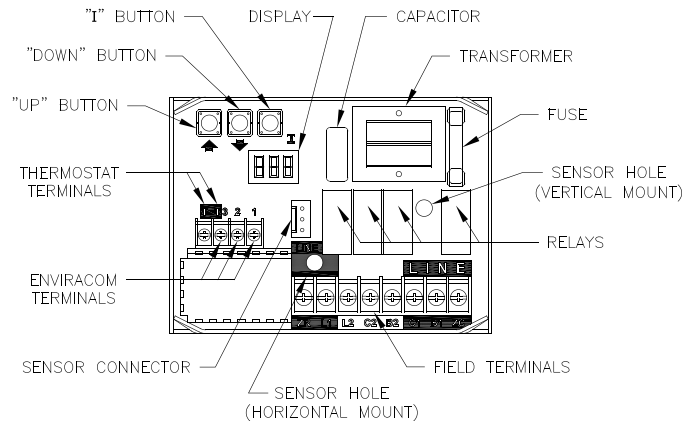

Figure 11-1: Intelligent Oil Boiler Control
- The boiler's sequence of operation is shown as Status Codes on Cold Start Boiler Control display. See Table 11-2 and Figure 11-1.
- If the thermostat is not satisfied and the Operating Setpoint (SP) is reached the system circulator will continue to operate and the burner will stop. When the boiler water temperature drops below the setpoint less the differential setting the burner will restart.
- When an indirect water heater aquastat call for heat is wired to the "ZR" terminal the Boiler Control starts a domestic hot water circulator connected to the "ZC" terminal and when the boiler temperature is less than Operating Setpoint (SP), the Cold Start Boiler Control energizes the oil primary to turn on the burner without circulator pre-purge delay.
- The boiler's sequence of operation is shown as Status Codes on Warm Start Boiler Control display. See Table 11-2 and Figure 11-1.